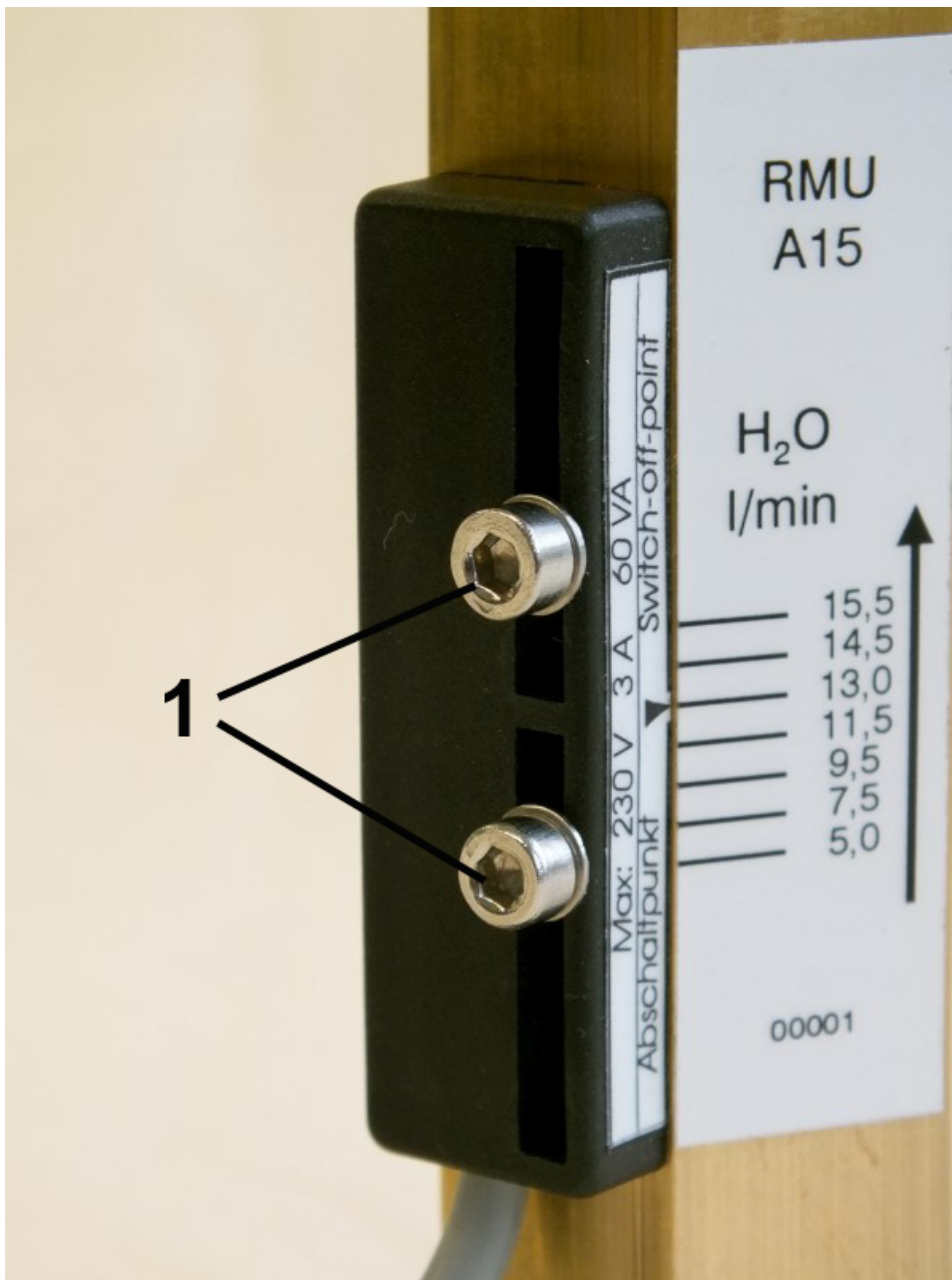

Fig. 24: Loosen the set screws (example switch point adjustment scale)
1. ➤ Loosen the set screws of the switch contact (Fig. 24/1) using a hex screwdriver.
3. ➤ Tighten the set screws of the switch contact (Fig. 24/1) using a hex screwdriver. When doing so, observe the correct tightening torque.